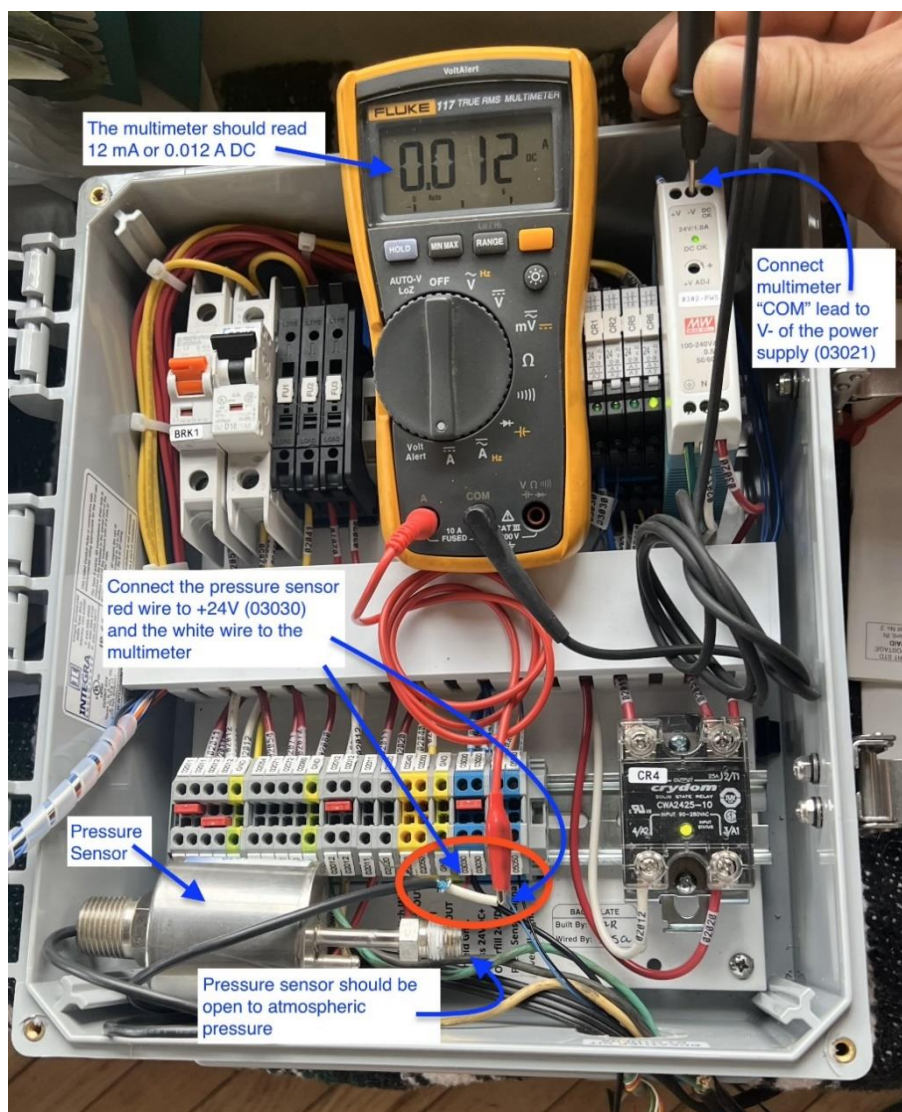

Figure 8-15: Example of Fluke multimeter and Pressure Sensor connection for test
**See Figure 8-15.**
### See Figure 8-15